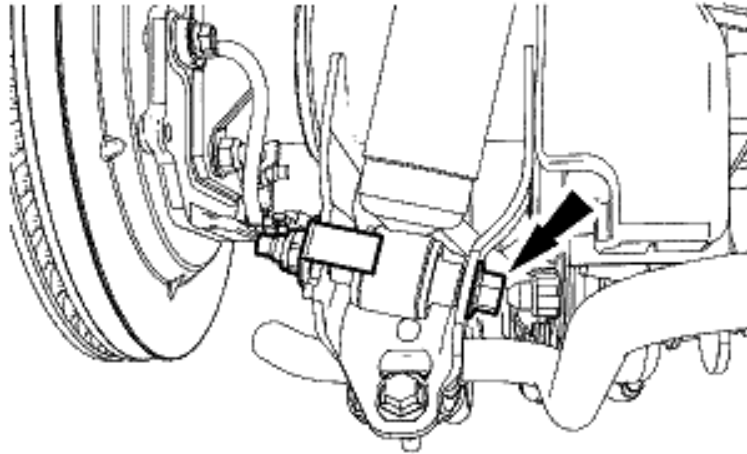

Fig. 4
3. With the axle supported, remove the lower shock bolts (Fig. 4).